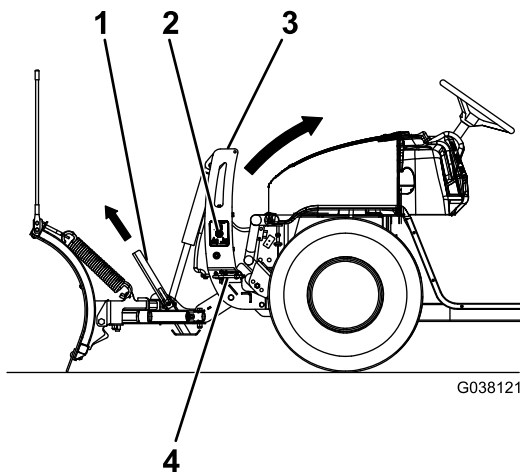

Figure 20
- Push the SmartHitch2 switch on the side of the coupler tower upward and raise the tower until the coupler spring pins snap in (Figure 20).
- Pull the kickstand spring-pin outward and raise the kickstand, then release the spring pin to secure it (Figure 20).